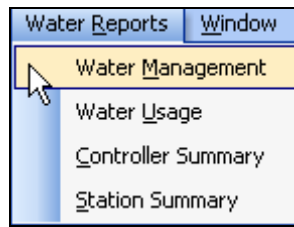

Figure 26.0.1
1. From the toolbar at the top of the screen select **Water Reports** then scroll down to **Water Management** and click on it (Figure 26.0.1).